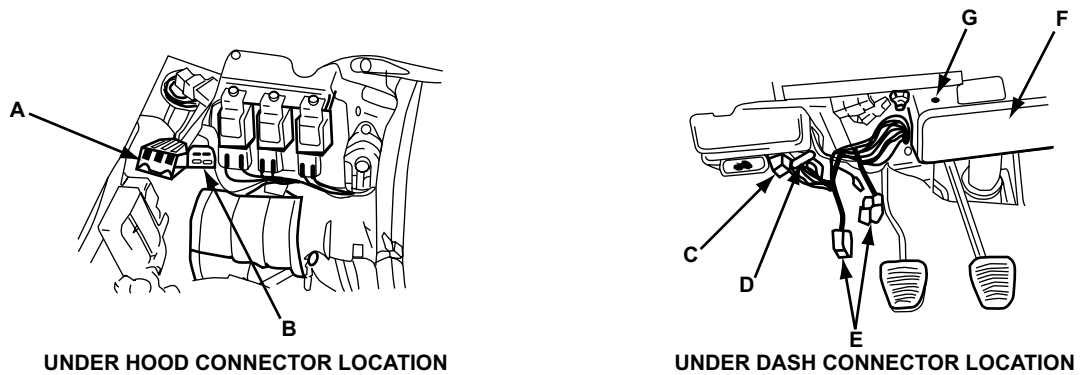

Figure 15-33 1983 ECC carbureted
- “1983 ECC carbureted” on page 193 (Figure 15-33)